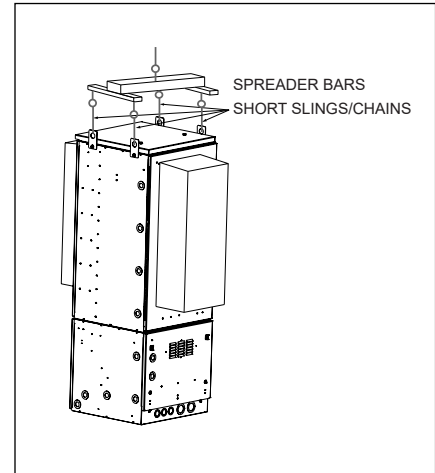

Figure 4 Lifting the CUBE
- Insert the lifting sling connecting links securely through each of the lifting brackets as shown in Figure 4.
Insert the lifting cable sling connecting links securely through each of the lifting brackets as shown in Figure 4.